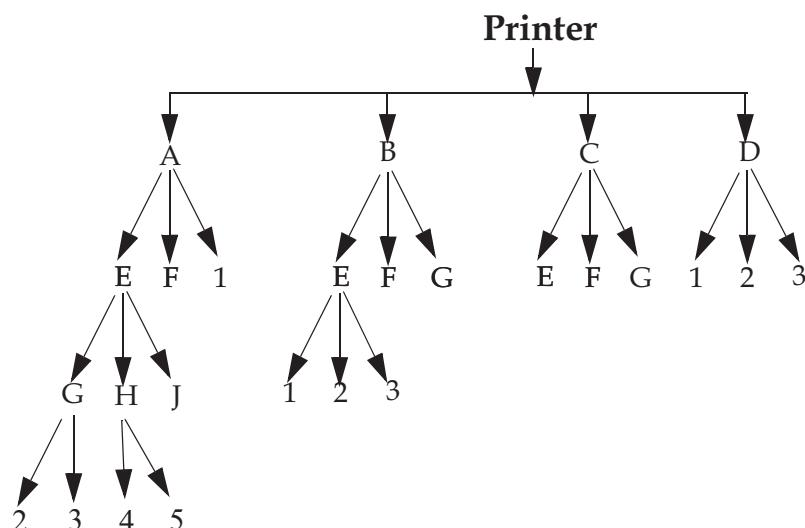

Figure 10-1: Graphical Representation of the Different Subassemblies and Parts
- An alphabet is assigned to the main assemblies of a printer and each sub assembly under the main assembly. See Figure 10-1 on page 10-3. For example: If A, B, C and D identify the main assemblies of a printer, then the alphabets E, F, and so on identify sub assemblies below each main assembly in a sequence.
A natural number (1,2,3.....) is assigned to the stand alone parts (in ascending order) through out the breakdown of main assemblies. See Figure 10-1.